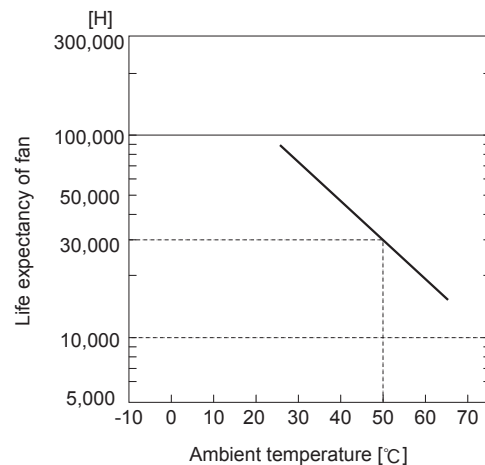

Fig.4.1 Life expectancy of fan ( $R(t)=90\%$ )
- Regular exchange is necessary for the fan, because the life expectancy ( $R(t)=90\%$ ) of the fan depending on the use condition is shown in Fig.4.1.